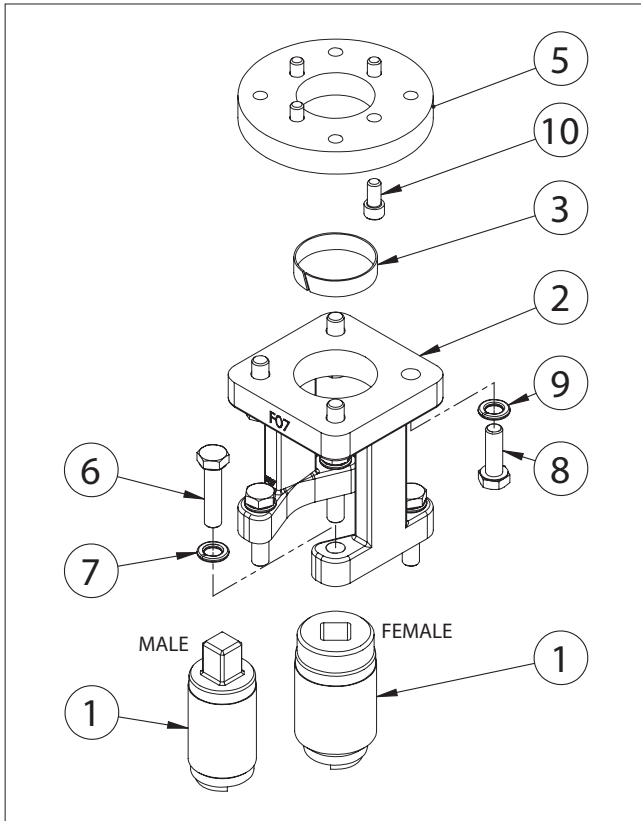

Figure 17. Linkage Assembly – Square Drive
**Male/Female Square Drive Actuators (Figure 17):** No coupling prep required.